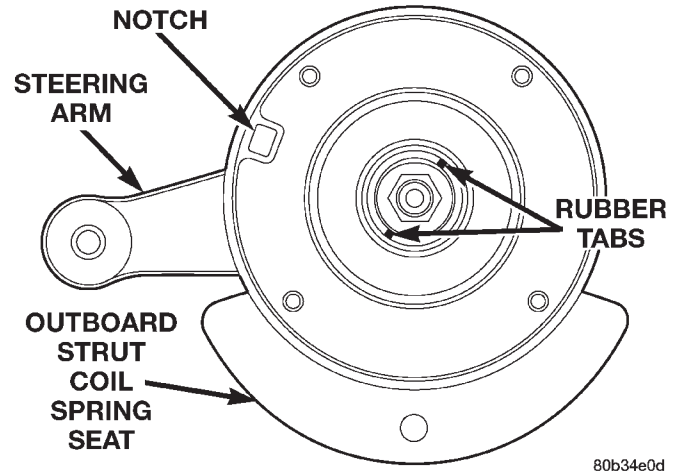
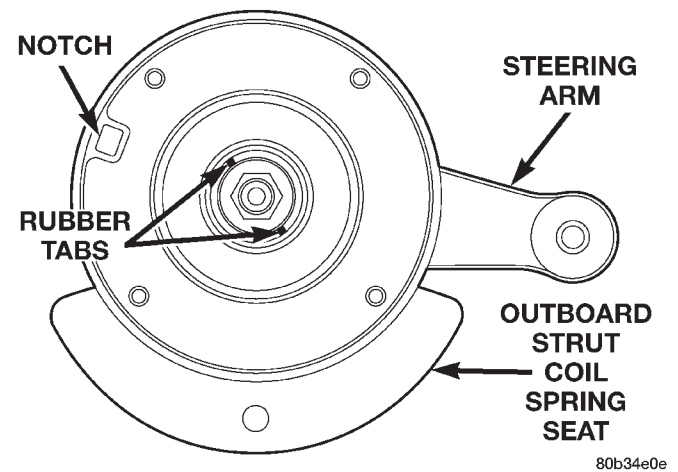

*Fig. 2 Left Front Strut Upper Mount*
*Fig. 3 Right Front Strut Upper Mount*
- (1) Inspect for damaged or broken coil springs.
- (2) Inspect for torn or damaged strut assembly dust boots.
- (3) Lift dust boot and inspect strut assembly for evidence of fluid running from the upper end of fluid reservoir. (Actual leakage will be a stream of fluid running down the side and dripping off lower end of unit.) A slight amount of seepage between the strut rod and strut shaft seal is not unusual and does not affect performance of the strut assembly. Also inspect jounce bumpers for signs of damage or deterioration.
- (4) Inspect the upper strut mount assembly. Make sure the correct mount is on the correct side of the vehicle. Looking down at the top of the upper mount, 2 tabs can be seen, (Fig. 2) and (Fig. 3), down inside the mount center well. The positioning of these tabs is critical to vehicle ride and sound. **DO NOT install a right mount on the left front strut or a left mount on a right front strut.**
- (4) If the strut is off the vehicle, a rectangular hole can be seen on the edge of the mount mounting surface (Fig. 2) and (Fig. 3). This is always in the 10 o'clock position when observing rubber tab positioning, whether a left or right mount is being observed.